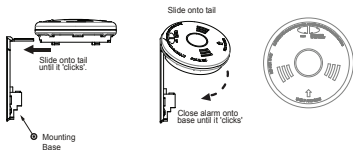

FIGURE 5
- Connect the alarm to the base tail first, and then swing the alarm closed onto the base until a “click” is heard. (See Figure 5)
To clean your alarm, remove it from the mounting bracket as outlined in "page 16 Battery Replacement or page 11, Figure 5". You can clean the interior of your alarm (sensing chamber) by using compressed air or a vacuum cleaner hose and blowing or vacuuming through the openings around the perimeter of the alarm. The outside of the alarm can be wiped with a damp cloth.